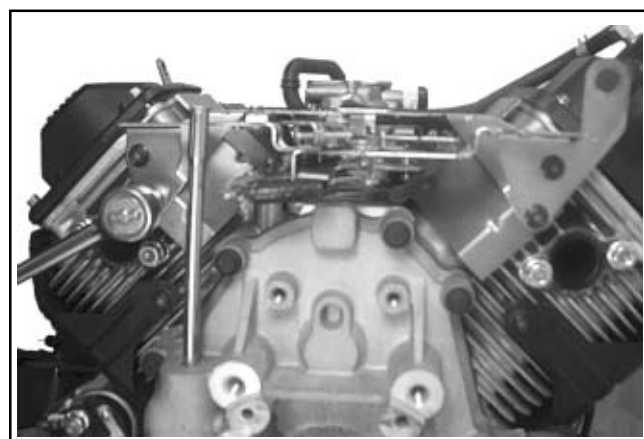

Figure 9-18. Removing Control Bracket.
1. Remove the four hex. flange screws securing the control bracket and rear air cleaner bracket (some models) to the cylinder heads. See Figures 9-18 and 9-19.